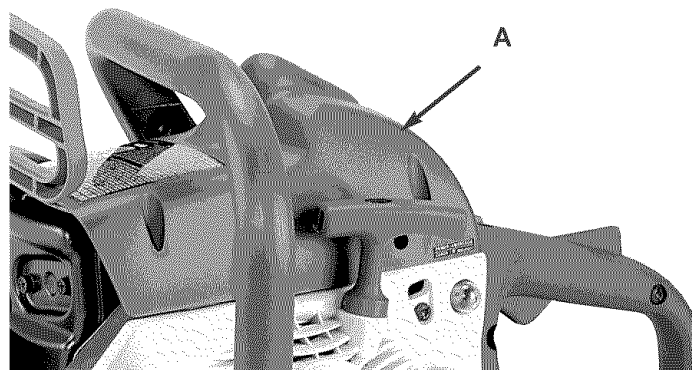

Fig. 25
1. Remove the top cover (A) by loosening the cover retaining screws. Cover will lift off (Fig. 25).